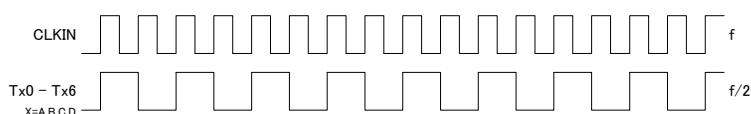

Figure 2. Worst Case Pattern
| | LVDS Transmitter Operating Current Worst Case Pattern(Fig.2) | RL=100Ω, CL=5pF, f=85MHz RS=VCC, (RS=GND) | 45 (36) | 67 (56) | mA |